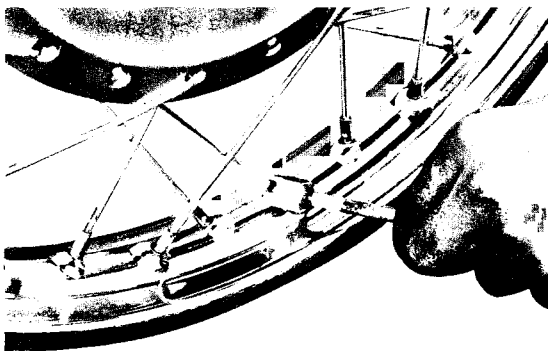

Fig. 4-1-13
3) Brake Shoe Set the brake shoe, and measure the outer diameter of the shoe, with slide calipers as shown in Fig. 4-1-13